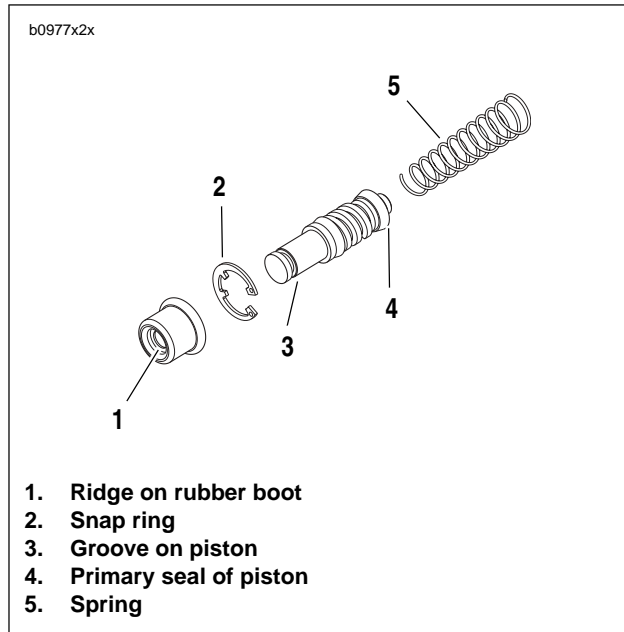

Figure 2-34. Front Master Cylinder Piston Assembly
3. See Figure 2-34. Remove rubber boot (1) and discard.
2. See Figure 2-34. Assemble **new** piston components placing small end of spring (5) behind primary seal of piston (4).
6. See Figure 2-34. Install ridge on boot (1) into groove on piston (3).